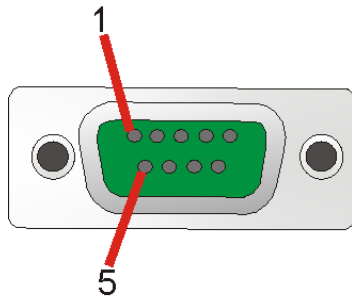

Figure 4-28: Serial Port Connector
- CN Pinouts:** See **Figure 4-28, Table 4-28**